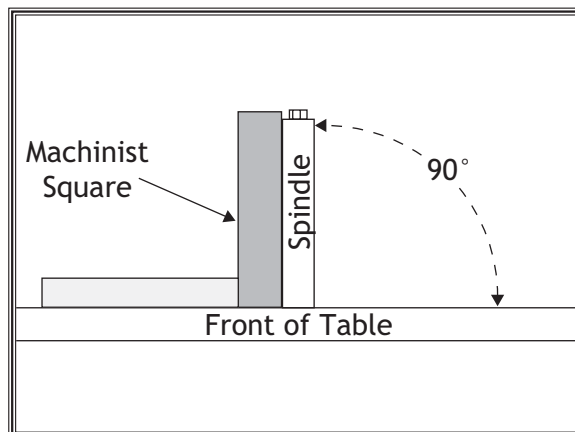
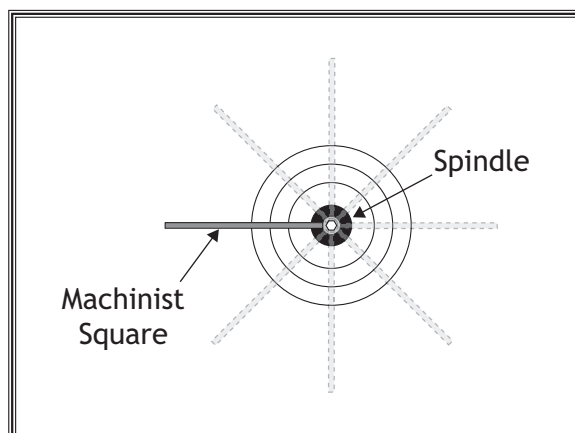

Figure 56. Illustration of using a machinist square with the table and spindle.
Figure 57. Illustration of machinist square at different directions around the spindle.
To reduce the risk of kickbacks and to increase the quality of cuts, it is important that the table and spindle are perpendicular to each other in all directions. Use a machinist's square or other precision square when checking/adjusting these components to ensure accurate results (see **Figures 56 & 57**).
5. Position a machinist square flat on the table and up against the spindle (see **Figure 56**) and in all directions (see **Figure 57**)—the spindle and table should be perpendicular to each other in all directions.